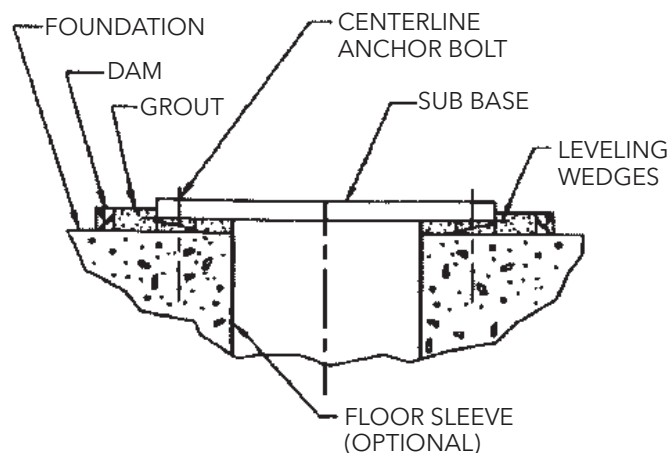

Figure 6
- A. Using leveling wedges. This is shown in Figure 6.
2. Build dam around foundation (See Figure 6). Thoroughly wet foundation. Refer to grout manufacturer's instructions.